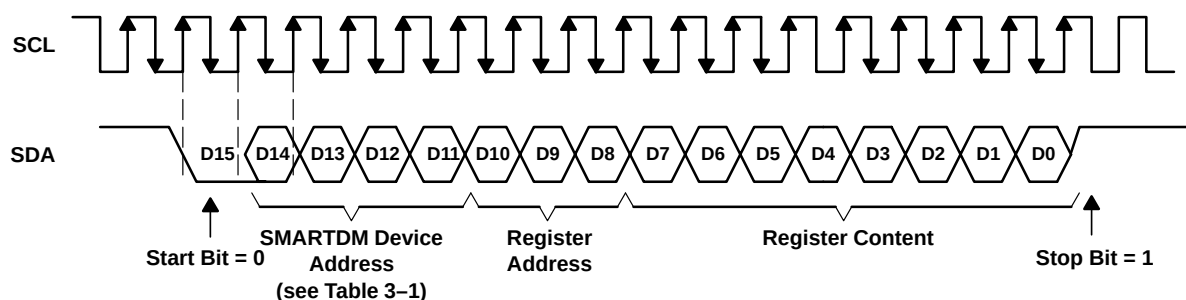

Figure 3–5. S²C Programming
The S²C is a write-only interface selected by programming bits D1-D0 of control register 2 to 01. The SDA input is normally in a high state, pulled low (START bit) to start the communication, and pulled high (STOP bit) after the transmission of the LSB. Figure 3–5 shows the timing diagram of S²C. The S²C also supports a broadcast mode in which the same register of all devices in cascade is programmed in a single write. To use S²C's broadcast mode, execute the following steps:
2. Write data to program control register as specified in Figure 3–5 with bits D14–D11 = XXXX (don't care).